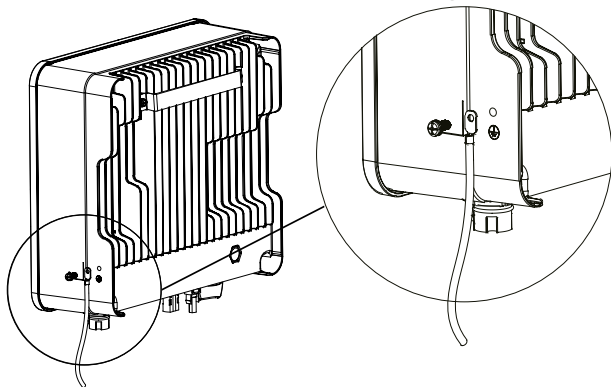

Fig. 15. Earthing terminal connection.
2. Fasten the earthing connection terminal to the PE cable with a suitable tool and lock the earthing connection terminal to the earthing connection hole on the bottom right side of the inverter as shown in Fig. 15.